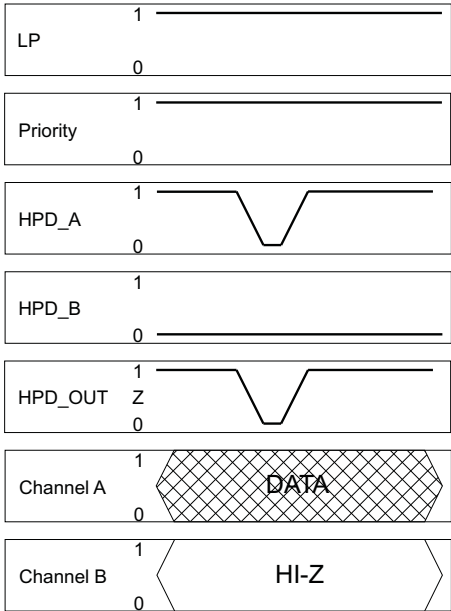
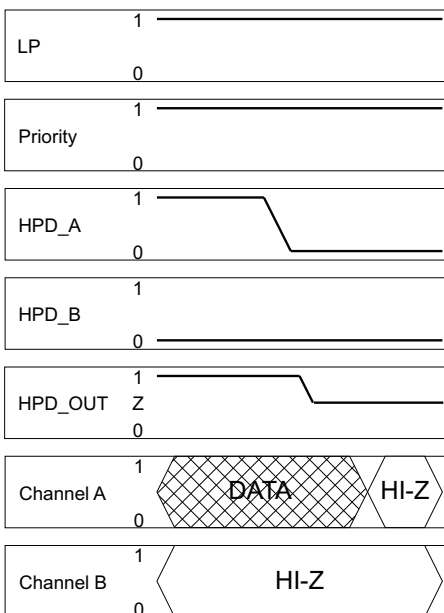

Figure 20.
Figure 21.
- Case one: In this case only one HPD input is initially HIGH. The HPD output logic state follows the state of the HPD input. If the HPD input pulses LOW, as may be the case if the Sink device is requesting an interrupt, the HPD output to the source also pulses LOW for the same duration of time with a slight delay (see Figure 20). The delay of this signal through the SN75DP128A is specified as $t_{PD(HPD)}$. If the duration of the LOW pulse is less than $t_{M(HPD)}$, it may not be accurately repeated to the source. If the duration of the LOW pulse exceeds $t_{T2(HPD)}$, the device assumes that an unplug event has occurred and enters the low power state (see Figure 21). Once the HPD input goes high again, the device returns to the active state as indicated in scenario 1. The state of the Priority pin has no effect in this scenario as only one HPD input port is active.